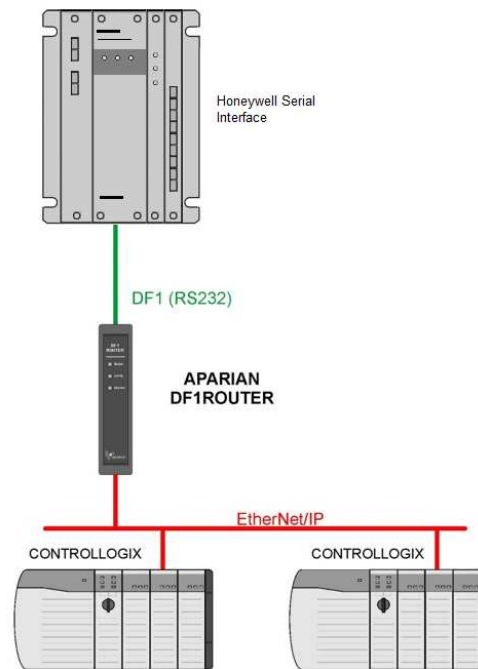

FIGURE 1 - EXAMPLE OF A TYPICAL NETWORK SETUP
**AB\_DATA2** – This refers to the file type that was created in the mapping shown in Figure 1. This number is entered in decimal (this parameter and the file number are both in Decimal) and must match the file number done within the mapping.